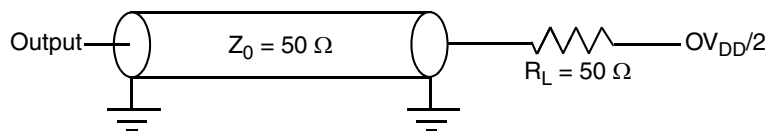

Figure 13. Alternate AC Test Load for the JTAG Interface
1. All outputs are measured from the midpoint voltage of the falling/rising edge of TCLK to the midpoint of the signal in question. The output timings are measured at the pins. All output timings assume a purely resistive 50-Ω load (see Figure 13). Time-of-flight delays must be added for trace lengths, vias, and connectors in the system.
Figure 13 provides the AC test load for TDO and the boundary-scan outputs of the MPC7457.